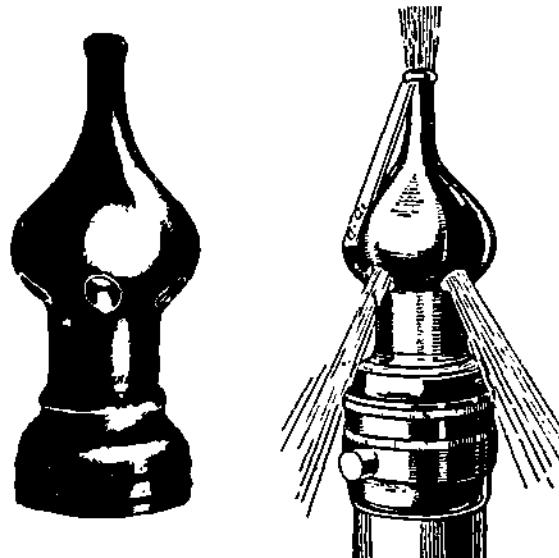

Figure 23-26. Two Types of Self-Propelled Nozzles
79. Two types of self-propelled nozzles are shown in Figure 23-26. One has a cutter blade attached for cutting roots, etc.; the other is similar but without the cutter. The pressure and flow of water from the rear of the nozzle cause it to revolve as it is pushed through the pipeline.